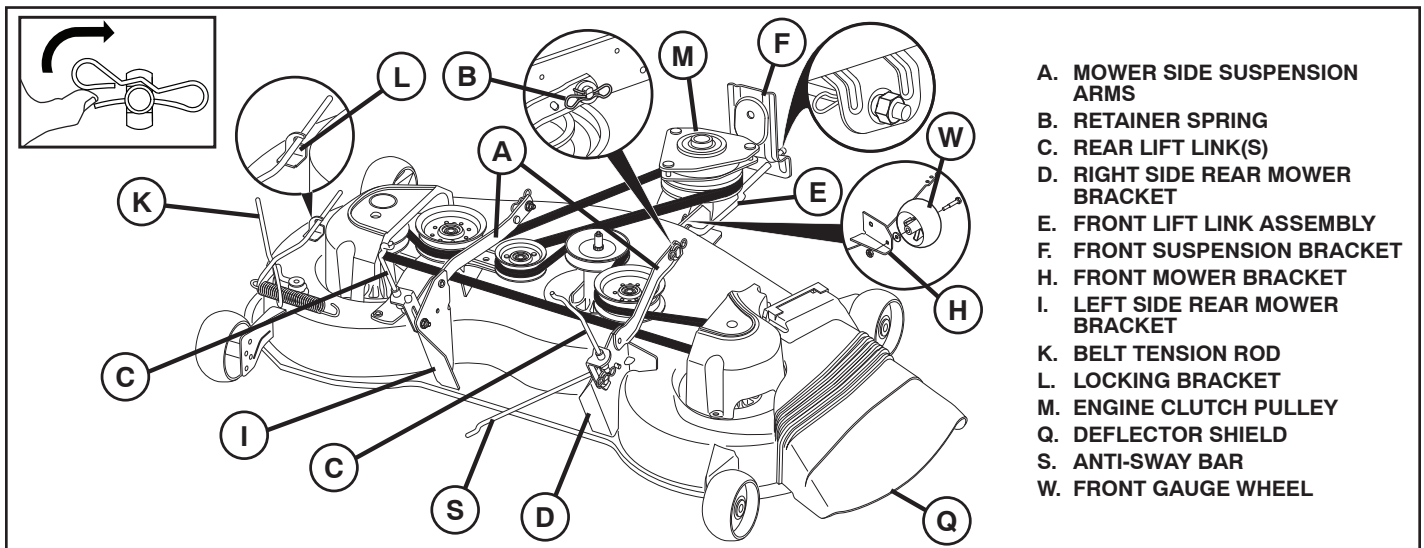

Fig. 21
## TO REMOVE MOWER (See Fig. 21)
## TO INSTALL MOWER (See Figs. 21 - 33)
### 1. SET PARKING BRAKE LEVER AND LOWER ATTACHMENT LIFT LEVER (See Fig. 21 and 22)
## 9 INSTALL BELT ON ENGINE CLUTCH PULLEY (M) (See Fig. 21 & 33)
- Disengage belt tension rod (K) from locking bracket (L).
- Install belt onto engine clutch pulley (M).